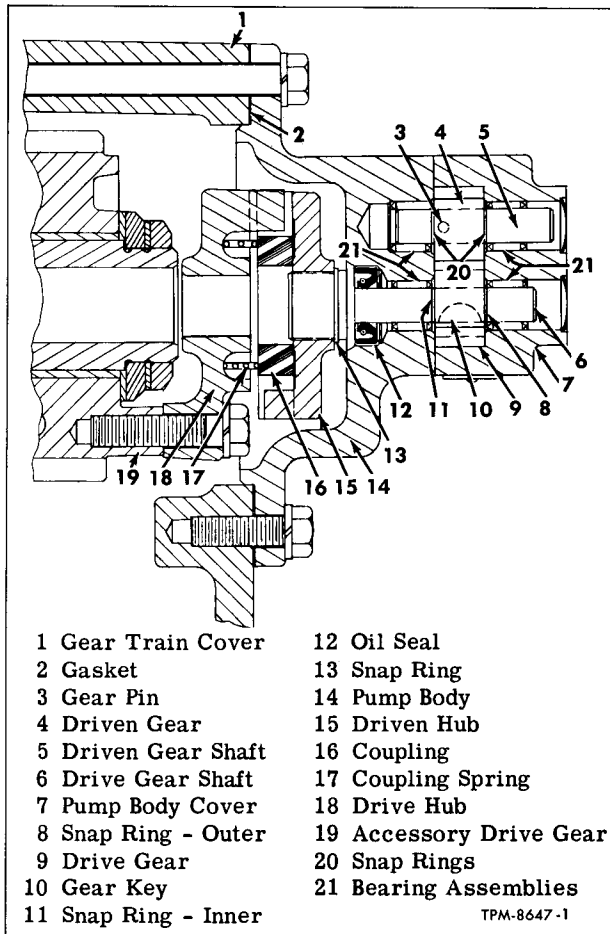

Figure 8—Oil Pump and Coupling
Fluid pump is gear type, mounted at rear of engine, and driven by coupling from accessory drive gear (fig. 8).
3. Remove driven hub, coupling spring, and coupling. If necessary to remove drive hub (18, fig. 8) remove bolts and lock washers which hold drive hub to accessory drive gear.
Key numbers in text refer to figure 8.
4. Position pump assembly to gear train cover, using care that coupling mates with drive hub and driven hub. Refer to figure 8.
6. Connect suction and discharge lines (2 and 9) at locations shown. If suction line (9) has been removed, clip line at clutch housing. Check oil level in transmission, start engine and inspect pump and lines for leaks.